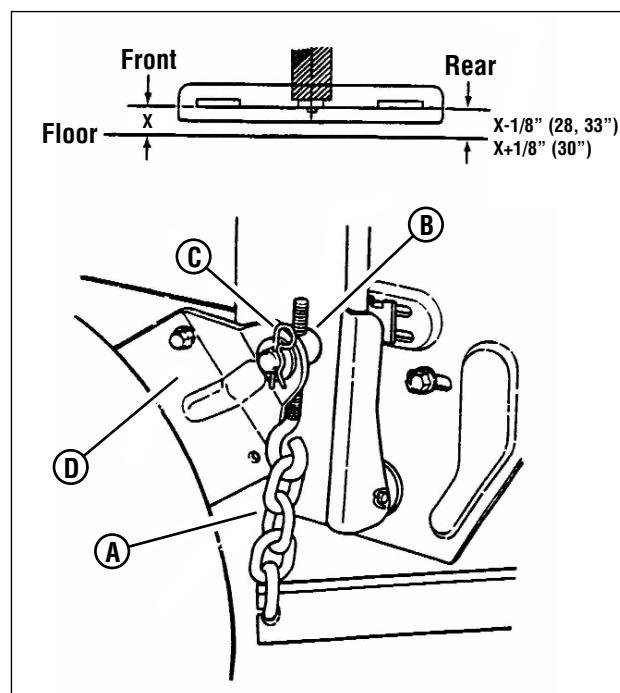

Figure 34: Adjusting the mower deck (front-to-rear)
4. Remove the rear hanger chains (**A**, Figure 34) and allow rear center of the deck to rest on the angle iron.
9. Readjust the rear hanger chain pivots (**B**, Figure 34) to align with the holes in the support brackets (**D**).
With the Rear Engine Rider on a smooth, level surface, rotate the blade until the blade tips are at the front and rear of the deck. Measure the distance from the blade tips to the floor (Figure 34). The distance should be the same, or the rear  $1/8"$  to  $1/4"$  lower than the front. If the rear blade tip is higher than the front, or is more than  $1/4"$  lower than the front, proceed with adjustment.
With the Rear Engine Rider on a smooth, level surface, rotate the blade until the blade tips are at the front and rear of the deck. Measure the distance from the blade tips to the floor (Figure 34). The distance should be the same, or the rear  $1/8"$  to  $1/4"$  higher than the front. If the rear blade tip is lower than the front, or is more than  $1/4"$  higher than the front, proceed with adjustment.
1. Remove the rear hanger chains (**A**, Figure 34).